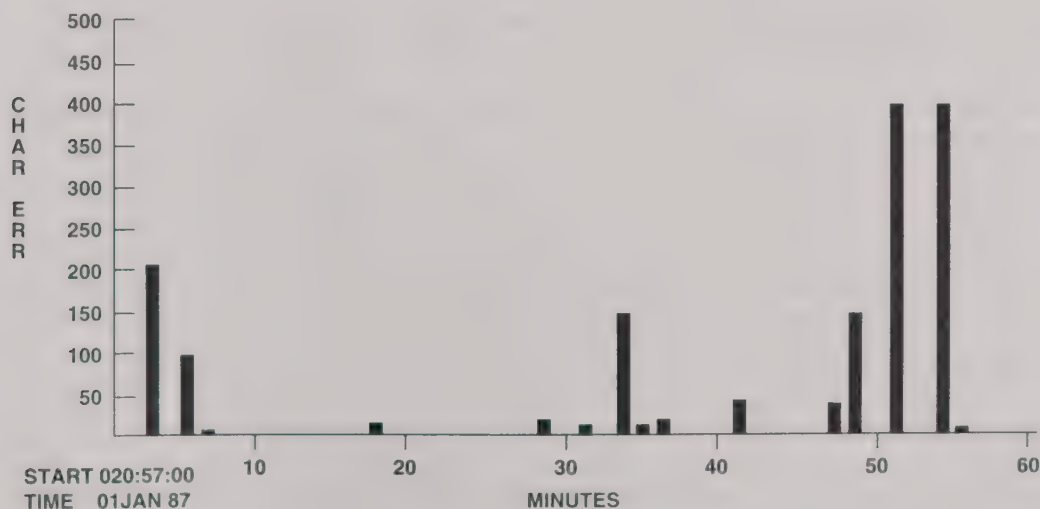

Figure 3-7
13. Press the softkey below the **FORMAT** menu item to select the printout format. Format choices are LIST (Figure 3-7) or GRAPH (Figure 3-8). LIST provides a printed value for the accumulated result and GRAPH provides a plot of the result value.
Histograms can be generated automatically when the **PRINTER OFF/ON** switch is enabled (the LED in this switch is illuminated). With a printer connected to the FIREBERD printer connector, and auxiliary function 11 (I/O DRIVER SEL) and auxiliary function 37 (PRNT FRMT) set for the printer being used. With ON displayed on the top line of the histogram menu, automatic printouts are generated by the time interval determined by the **#SMPLS** (samples) and **PERIOD** menu selections. The time displayed on automatic printouts reflects the time the histogram analysis began accumulating the displayed results. A marker on the horizontal axis of the printout indicates the position of the last sample. An automatic printout causes all three histograms to be generated. Automatic printouts are continuously generated until disabled. Figure 3-7 illustrates an automatic histogram printout in graph format.